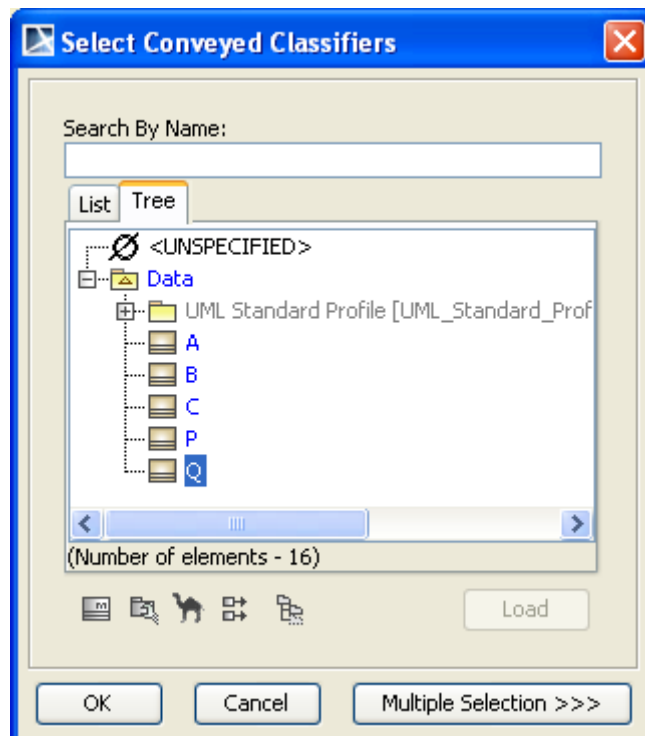

Figure 111 -- Select Conveyed Classifiers Dialog
6. Click the browse button ... next to the Conveyed Classifiers box. The Select Conveyed Classifier dialog will open (Figure 111).